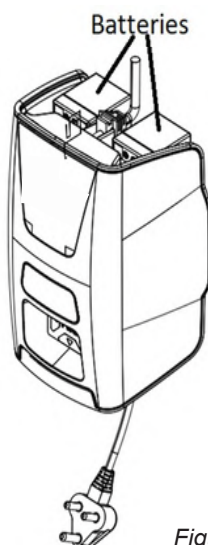

Figure 7
- ☐ Connect the batteries (See Fig 7)
- ☐ Connect the bridging cable between the 2 batteries (See Fig 7)